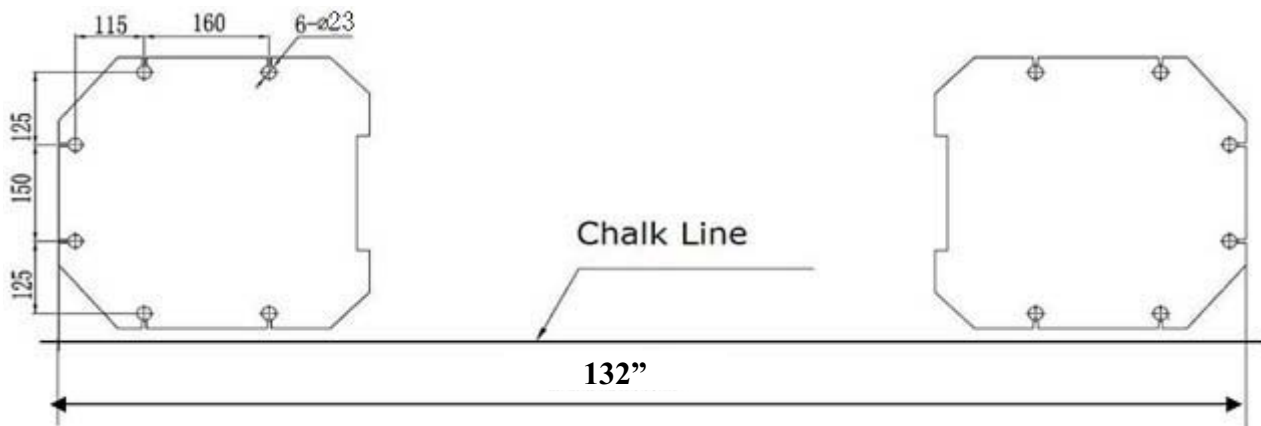

Fig. 5
B. Use a carpenter's chalk line to establish installation layout (See Fig. 5).